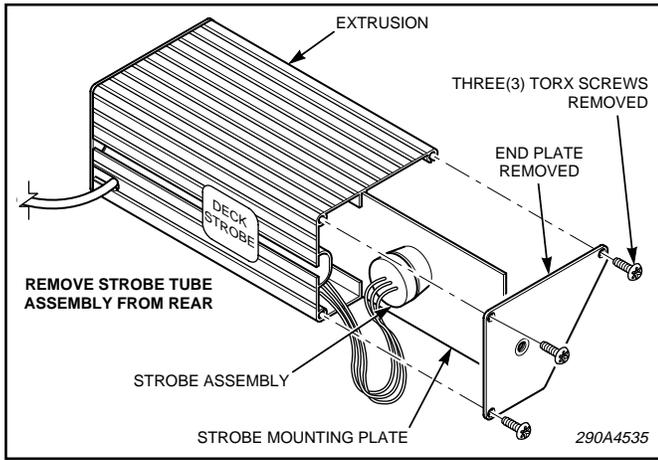

Figure 3.
c. See figure 3. Remove and retain the screws which secure the end plate to the extrusion.